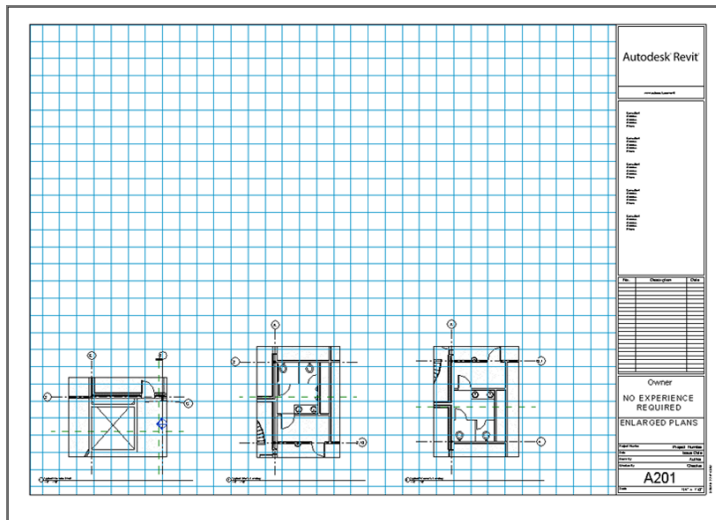

FIGURE 14.7: Creating a sheet and adding views in a row across the bottom of the page
10. Arrange them so that they're in a row, as shown in Figure 14.7.